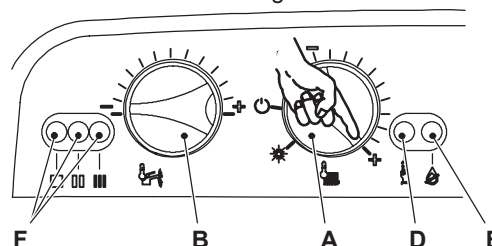

Figure 10.20
- 1 Turn the boiler ON positioning the function selector knob A as indicated in Figure 10.20.
- 2 Turn knob B as indicated in Figure 10.20.